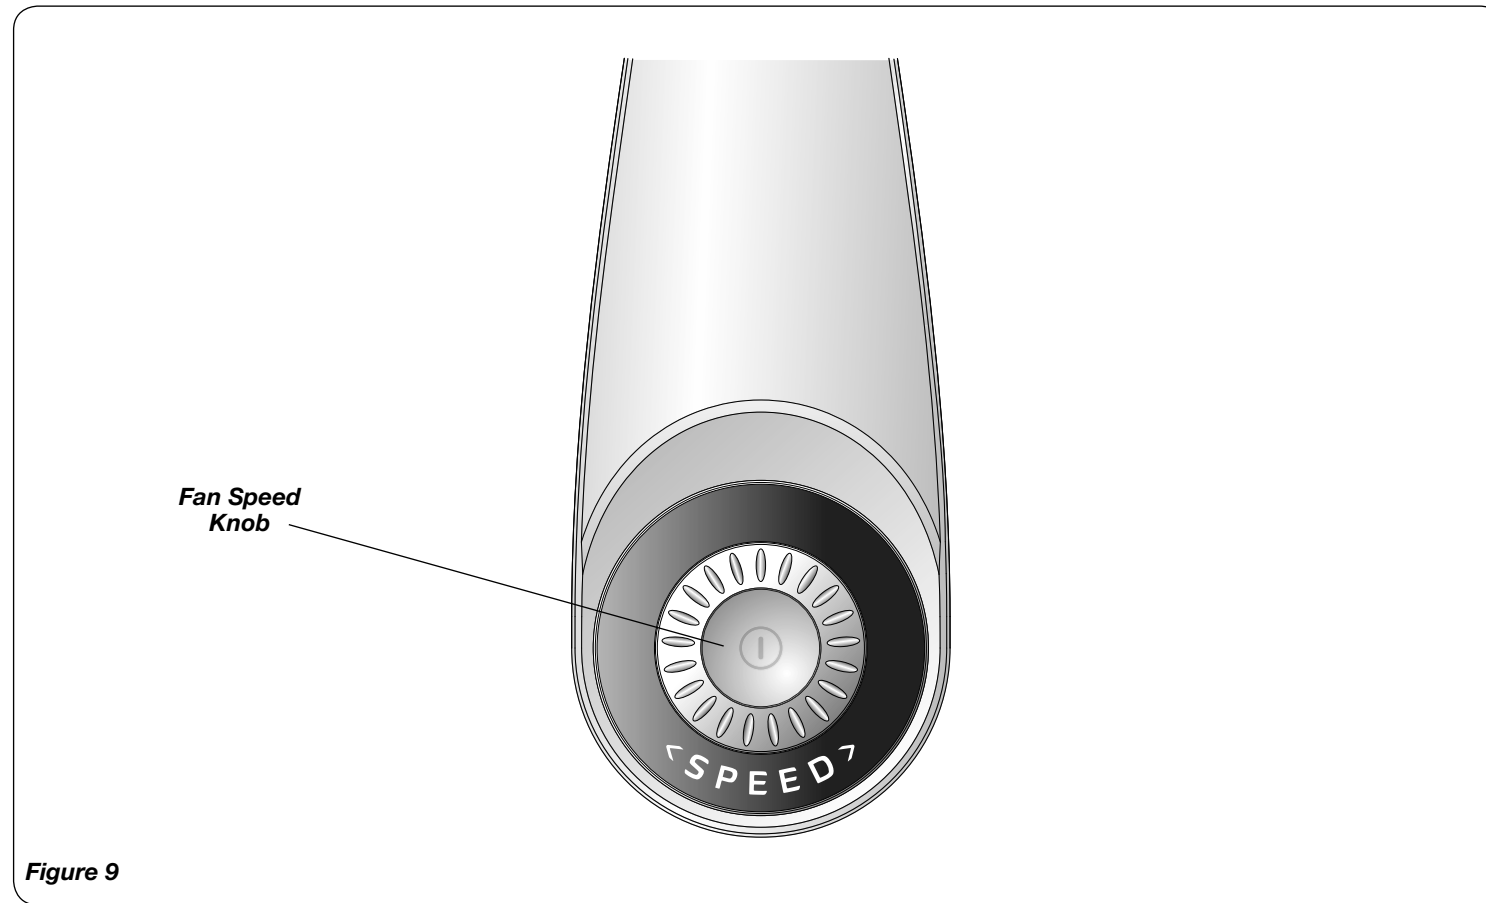
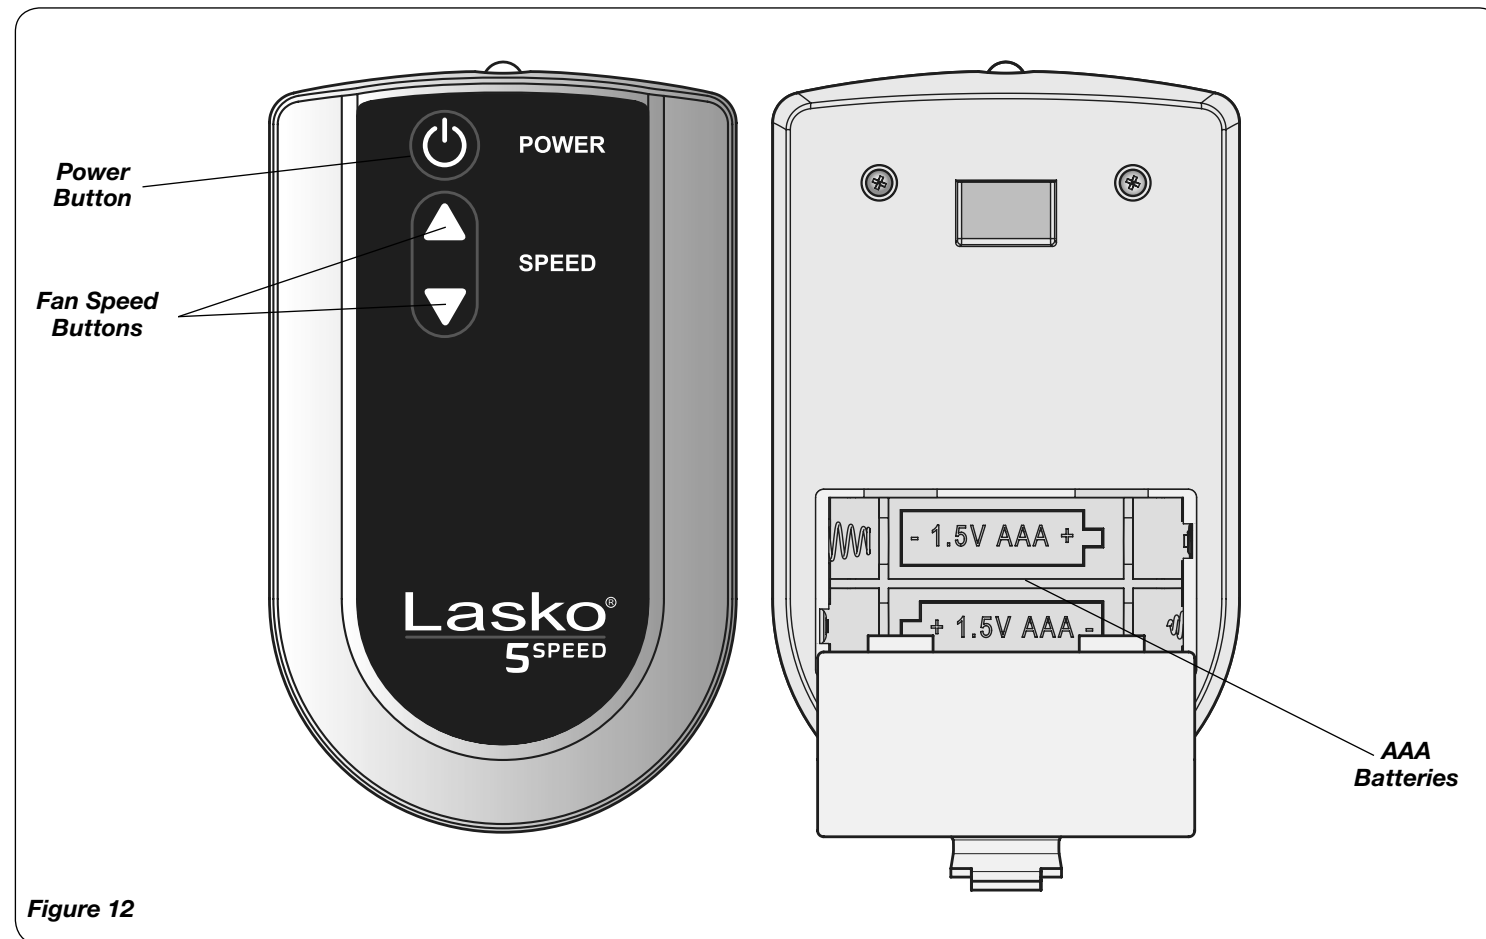

Figure 9
Figure 12
This Fan may be operated by the Manual Controls located on front of the unit (as shown in *Figure 9*) or by the Remote Control (shown in *Figure 12*).
1. Install batteries (not supplied) as shown in Figure 12. The battery is type "AAA".